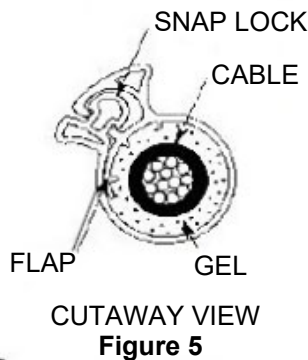

Figure 5
5. Center the connector in the sleeve then wrap the sleeve around the cable and connector. Start at one end. Compress the snap locks over the entire length of the sleeve. Ensure that flaps seat under snap locks as shown in Figure 5.